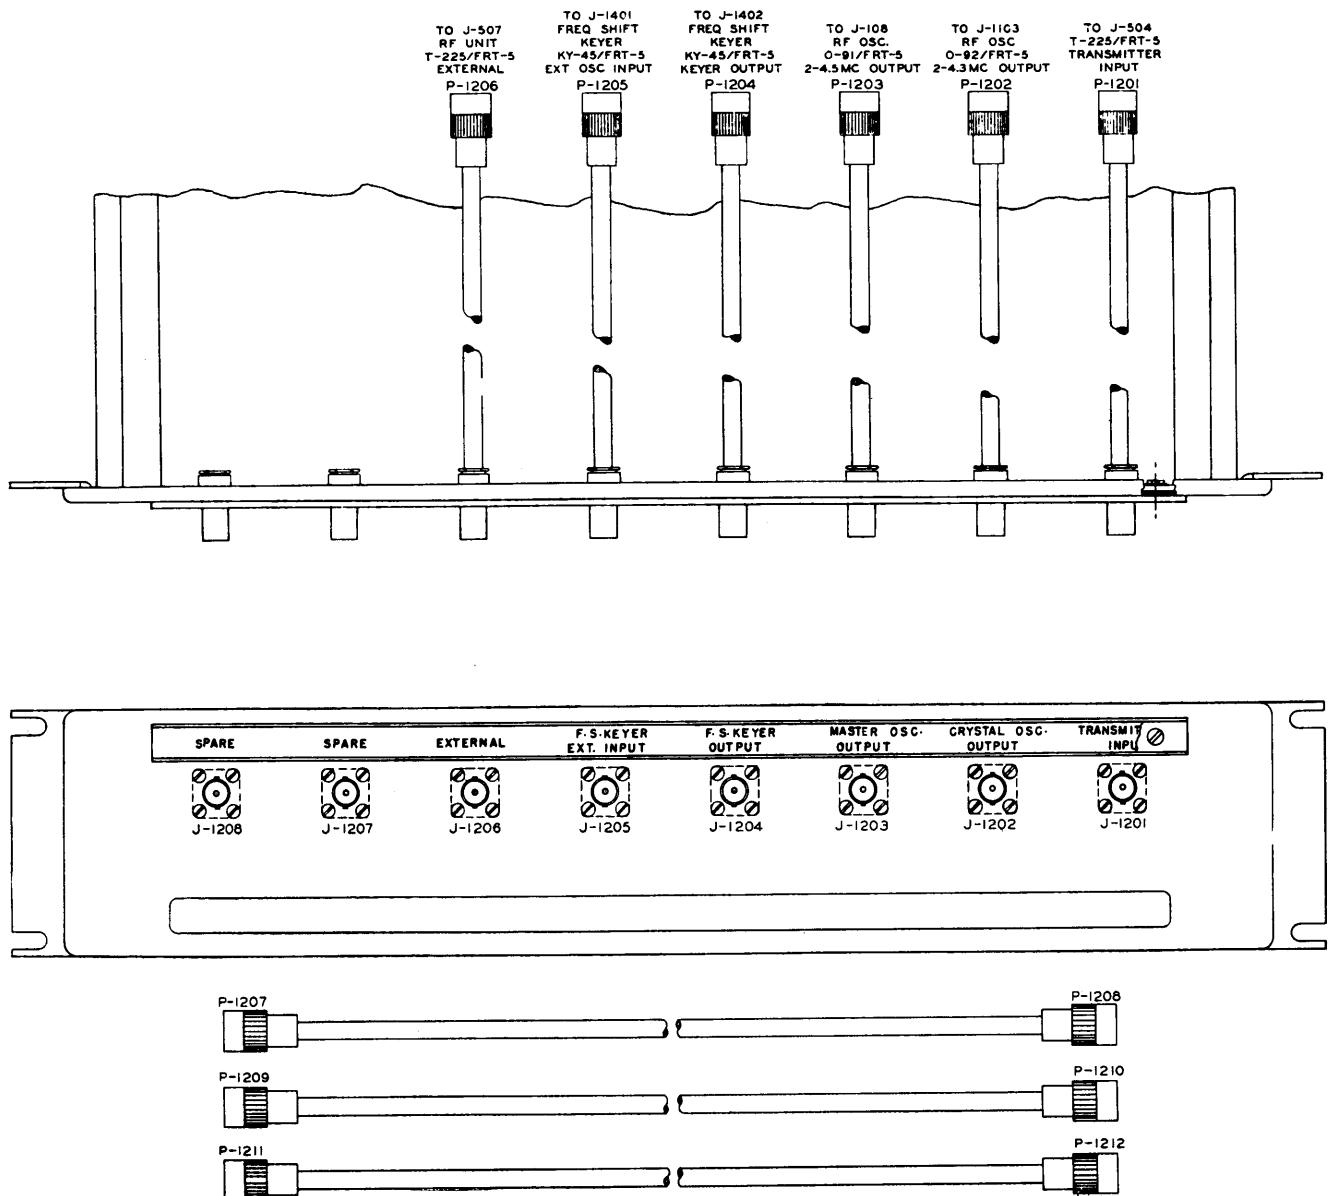
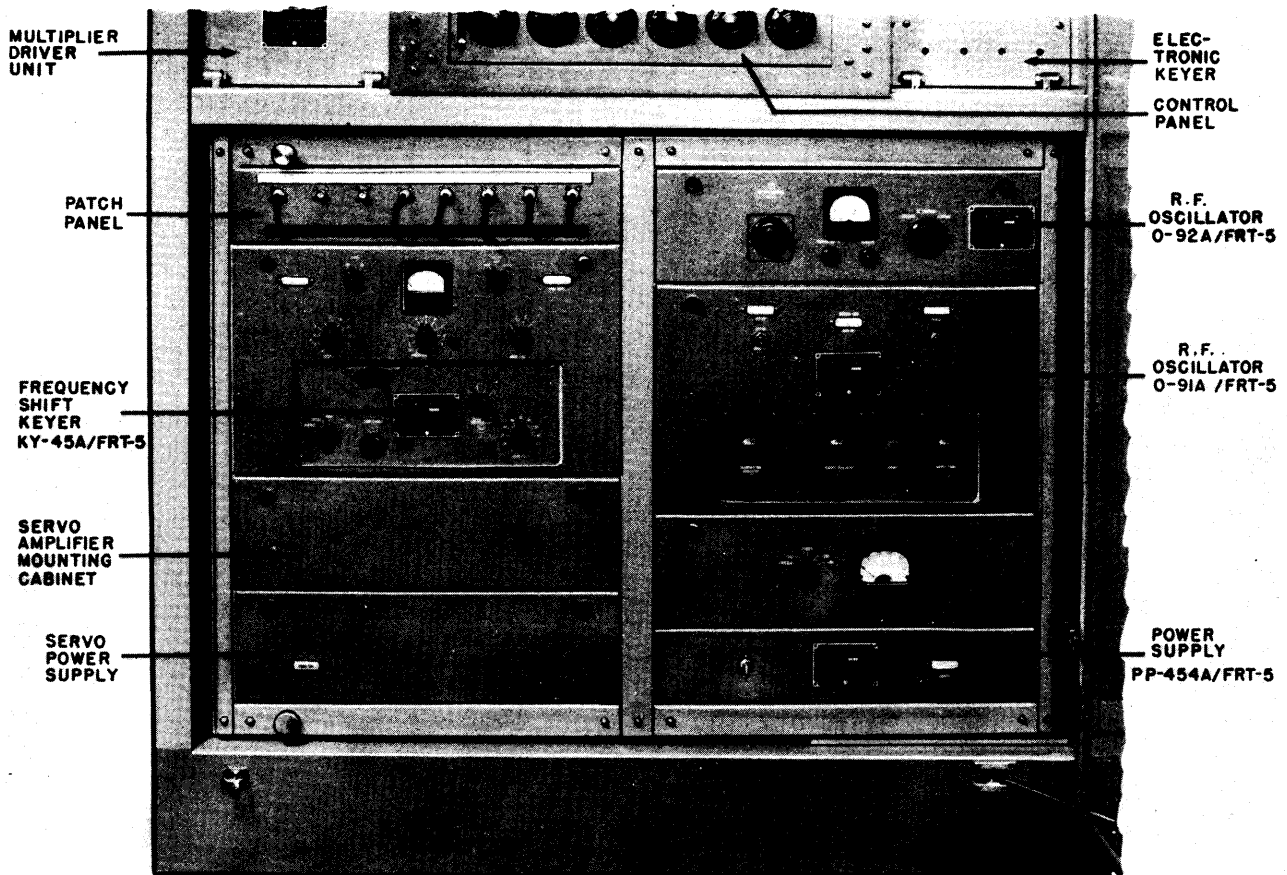
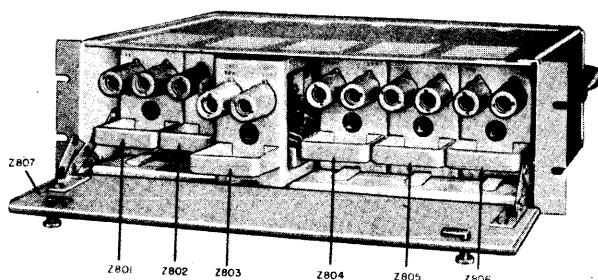

Figure 3-9. Outline Drawing — RF Unit T-225A/FRT-5, Patch Panel Showing Interconnecting Cables and Patch Cords
Figure 3-11. RF Unit T-225A/FRT-5, Front View of Lower Portion, Door Open, Showing Rack-Mounted Equipment
Figure 3-12. RF Unit T-225A/FRT-5, Servo Amplifier Mounting Cabinet, Front View, Hinged Panel Lower Portion Showing Six Plug-in Units
(1) PATCH PANEL. — The interconnection or patch panel illustrated in figure 3-9 is used to inter-connect the various exciters, and/or to connect them to the transmitter input, as required. It is mounted in the upper left corner of the equipment rack as shown in figure 3-11. Connectors J1201 and J1206 on the patch panel should be connected to J504 and J507, respectively, on the r-f unit.
(2) RF OSCILLATOR O-92A/FRT-5. — (Refer to figure 1-4.) — Mount this crystal-controlled oscillator unit in the upper right-hand corner of the mounting rack in RF Unit T-225A/FRT-5, as shown in figure 3-11. Use the cables that are mounted behind the rack to connect the output connector (J1103) on the oscillator to J1202 on the patch panel, and to connect the high voltage connector (J509), located behind the rack, to J1102 on the oscillator. Connect J513
(3) SERVO POWER SUPPLY (Z901). — Mount the servo power supply (figures 7-18 thru 7-21) in the lower left-hand corner of the mounting rack in RF Unit T-225A/FRT-5, as shown in figure 3-11. There are no connections to be made to this unit until the servo amplifier unit is installed.
(4) SERVO AMPLIFIER MOUNTING CABINET (Z807). — This unit (figures 3-12 and 7-14) is installed just above the servo power supply in the rack, as shown in figure 3-11. The six servo amplifier units (Z801 thru Z806) are slid into this cabinet as shown
in figure 3-12. Connectors P901 and P802 on the cables from the servo cabinet connect to J901 on the servo power supply and J517 on the r-f unit, respectively.